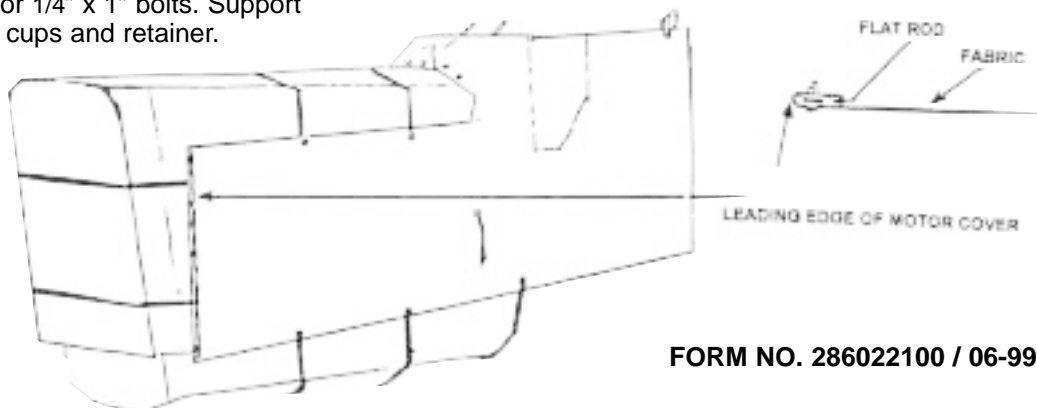

Figure 2
7. Straighten cover to front of tractor to fit length and fold over excess (see Figure 2). Place #710241901 flat rod in between the fabric layers. Cut slits in the fabric layers and place 3/16" x 1/2" bolts through fabric layers and rod. Repeat on other side.